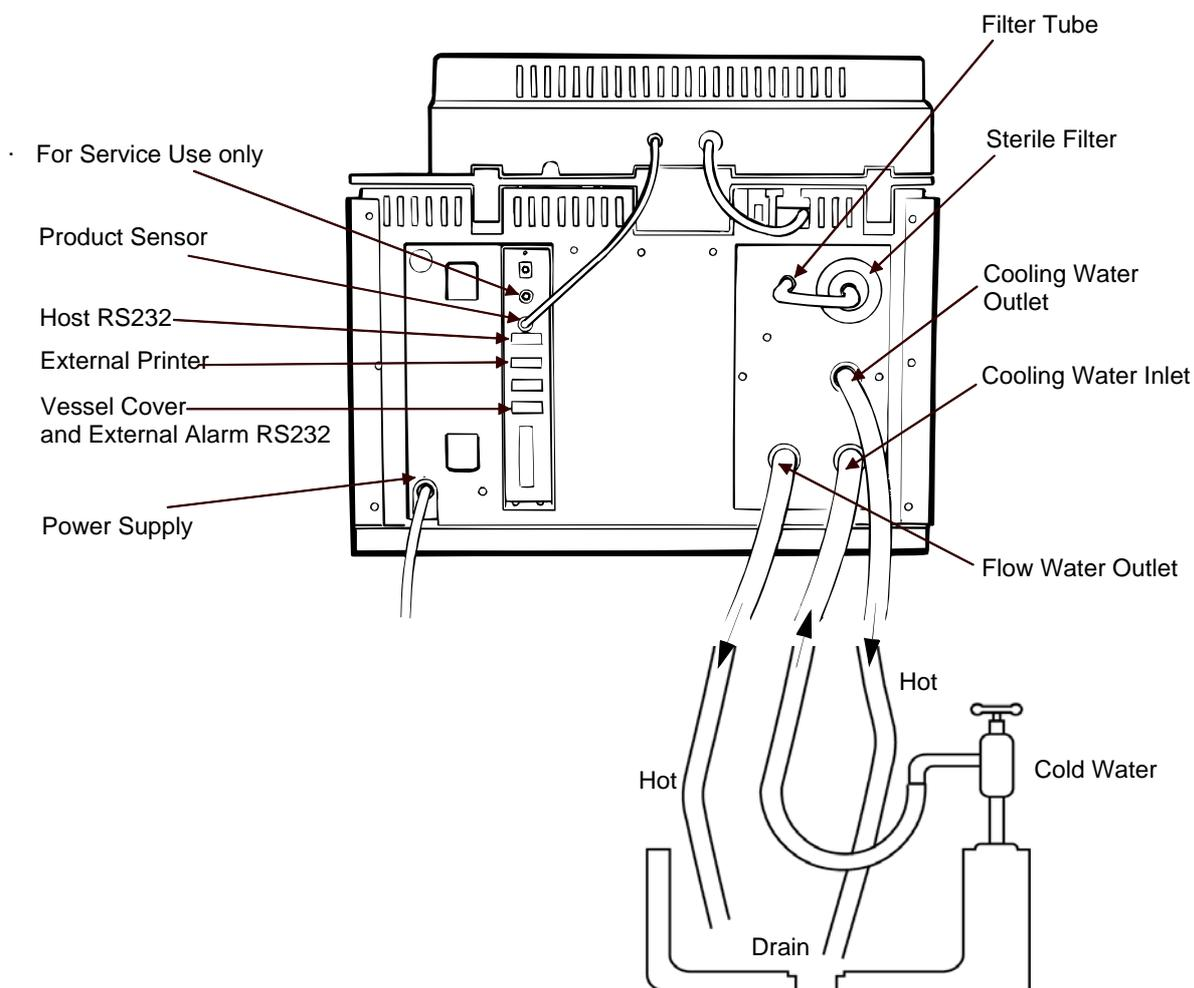

Figure 2.2: MediaClave rear panel
- Screw the sterile filter into position (see figure 2.2). Orientation of the text on the filter: Text must be visible from the rear side.
- Using the milled screw, screw the support pressure tube into the sterile filter (see figure 2.2).